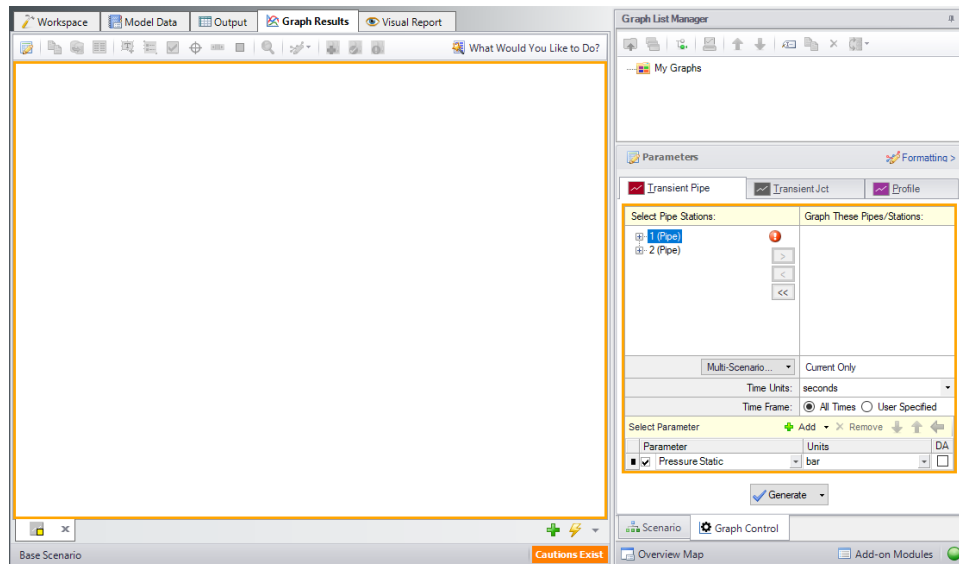

Figure 32: The Graph Results window and Quick Access Panel Graph Control tab is where various system parameters (both steady-state and transient) can be graphed
Figure 32 shows the Graph Results window with the Graph Control tab selected on the Quick Access Panel.
➤ **Access the graphing parameters by opening the Graph Control tab on the Quick Access Panel (this tab is automatically selected when the Graph Results window is opened).** Because we are interested in seeing how the pressures and flows in specific pipe sections respond over time, ensure that the Transient Pipe tab is selected in the Parameters/Formatting area on the Quick Access Panel. Alternatively, you can open the Select Graph Parameters window by clicking on the corresponding icon on the Graph Results Toolbar (Figure 32).
- **Create a new graph tab** by clicking the New Tab button which is the green plus icon located on the bottom-right, immediately below the graph area (Figure 32).